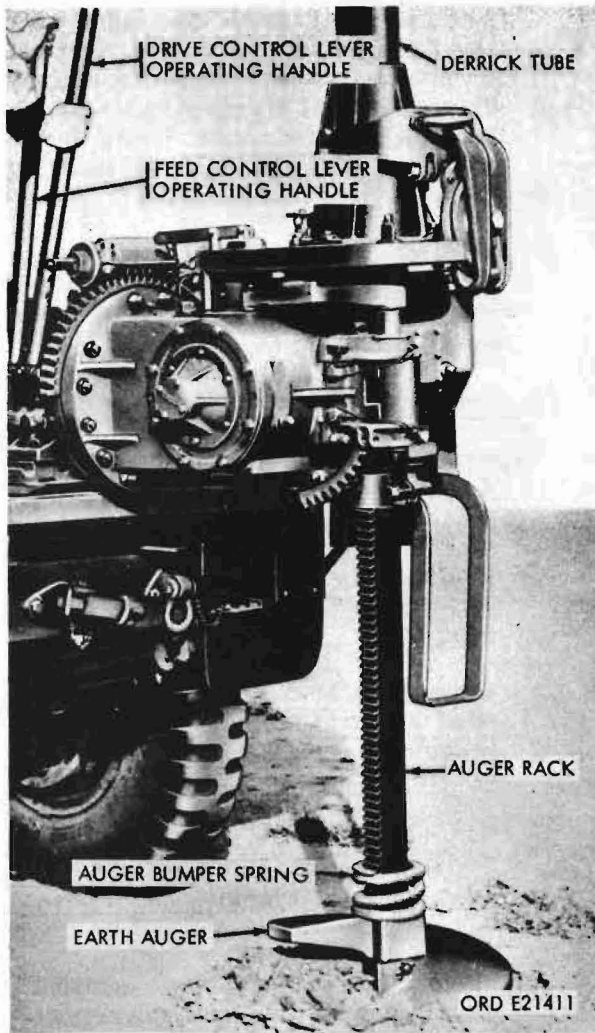

Figure 165. Boring with earth auger
- (e) Push on both handles to bore with each auger (fig. 165).